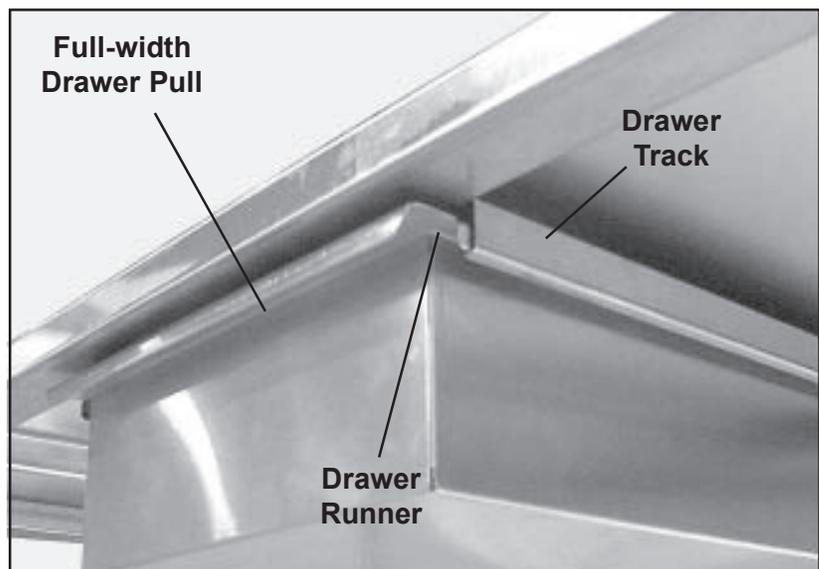

Figure 6. Under View of the Drawer and Full-Width Drawer Pull
2. The drawer can be removed from either side of the cart. With your palm facing up, grasp the full-width pull of the drawer under the cart top (Figure 6), and pull the drawer all of the way out while supporting the drawer from underneath.
Second: Remove the drawer from the cart and inspect the side runners on the drawer and the tracks inside the cart. Refer to Figure 6 on *Page 19*. Determine whether the runners or the tracks have been bent or damaged.